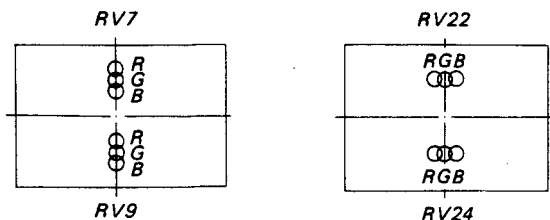

Fig. 1-16.
- Adjust RV7, RV9 and RV22, RV24 on the DB board to coincide with the R, G and B dots as shown in Fig. 1-16.